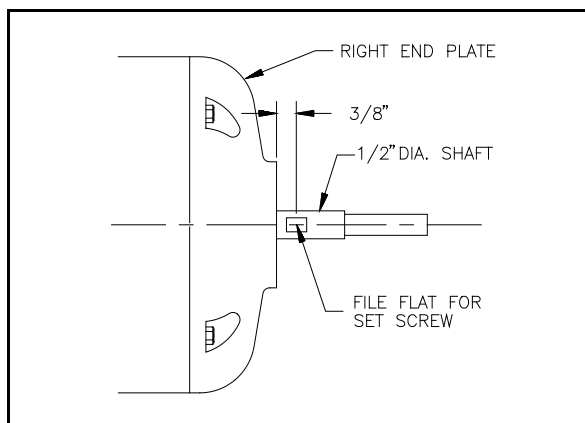

Figure 6. Flat for set screw
3.7 **IMPORTANT:** A flat must be filed on the shaft where the clutch set screw contacts the shaft. If this is not done, the set screw will raise a burr on the shaft and it will be very difficult to remove the clutch. Hold the left end of the shaft wrapped in a shop towel with the pliers. File a flat on the right shaft about 3/8" from the end plate. See Figure 6.
- 7.1.4 Before assembly, make sure a flat for the set screw has been filed. See Figure 6. Use emery cloth to remove burrs and high spots from the 1/2" shaft. Make sure that the clutch will slide freely onto the shaft all the way to the bearing without binding. Tighten the set screw onto the flat when installing the clutch.